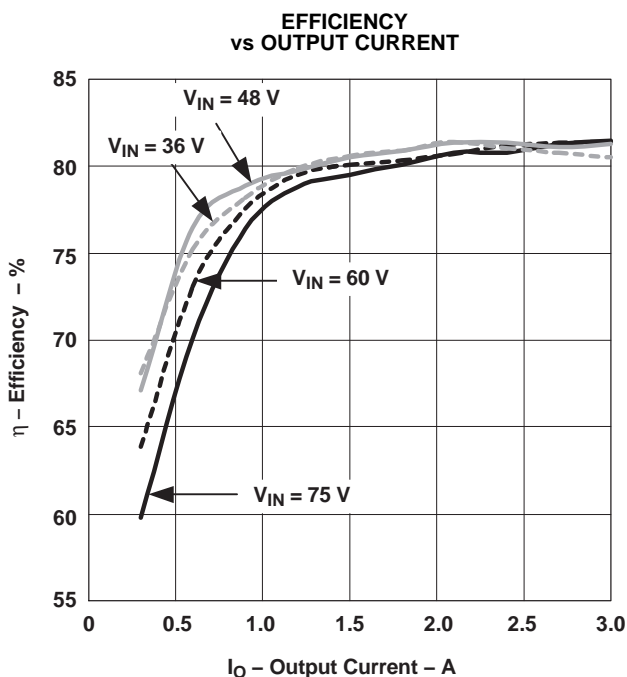
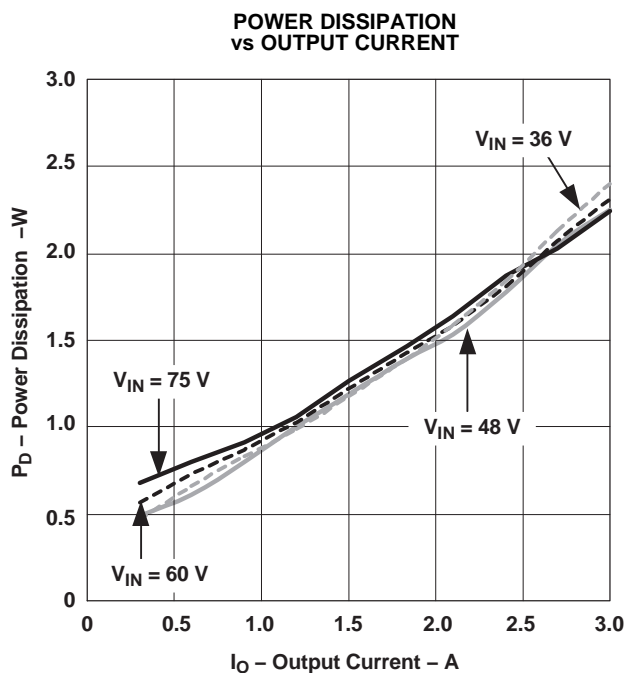
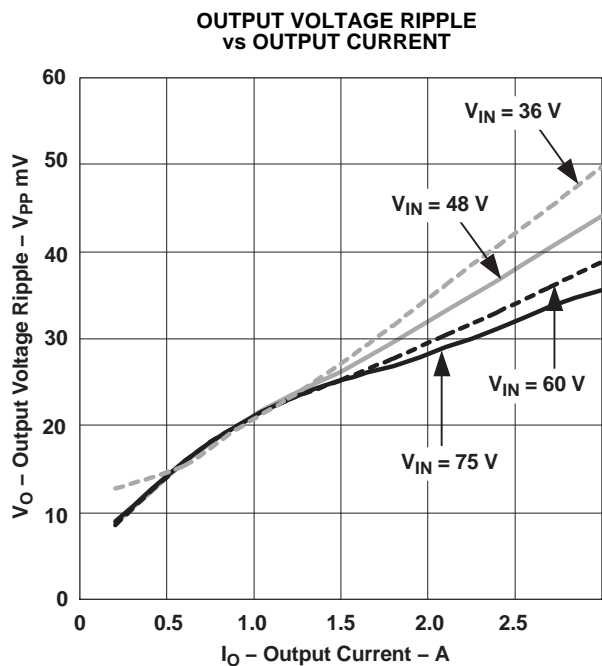

Figure 1.
Figure 2.
Figure 3.
- (1) All data listed in Figure 1, Figure 2, and Figure 3 have been developed from actual products tested at 25°C . This data is considered typical data for the dc-dc converter.